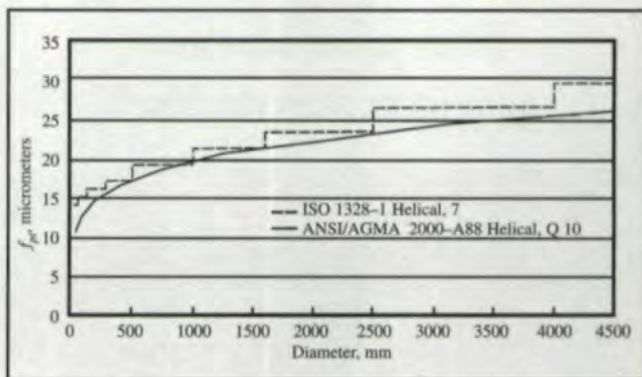

Fig. 1 - Tolerance comparison, single pitch variation,  $f_{pt}$ , AGMA Q 10 and ISO grade 7, module 8.
**3. Tables vs. Formulas.** AGMA 2000 A-88 uses formulas for the basis of tolerances. These tolerances are then based on a continuous curve. Tables of tolerances are included only as a convenience for the shop users. The tolerances in ISO 1328-1 are based on the tables, rather than a formula. Formulas are included, but are based on ranges of modules ( $m$ ), diameters ( $d$ ) and face width ( $b$ ), as shown in the tables. When applying the formulas, the given parameters  $m$ ,  $d$  and  $b$  are to be introduced as the geometric mean values of the relevant range limits and not the actual values. If, for example, the actual module is 7, the range limits are  $m = 6$  and  $m = 10$ , and the allowable deviations are calculated with  $m = (6 \cdot 10)^{0.5} = 7.746$ . This causes an unusual looking graph of tolerances with steps in it. (See Fig. 1). This also causes some unusual circumstances, where a minute change in diameter or module can cause a big change in tolerance if the change moves the example gear into the next step.